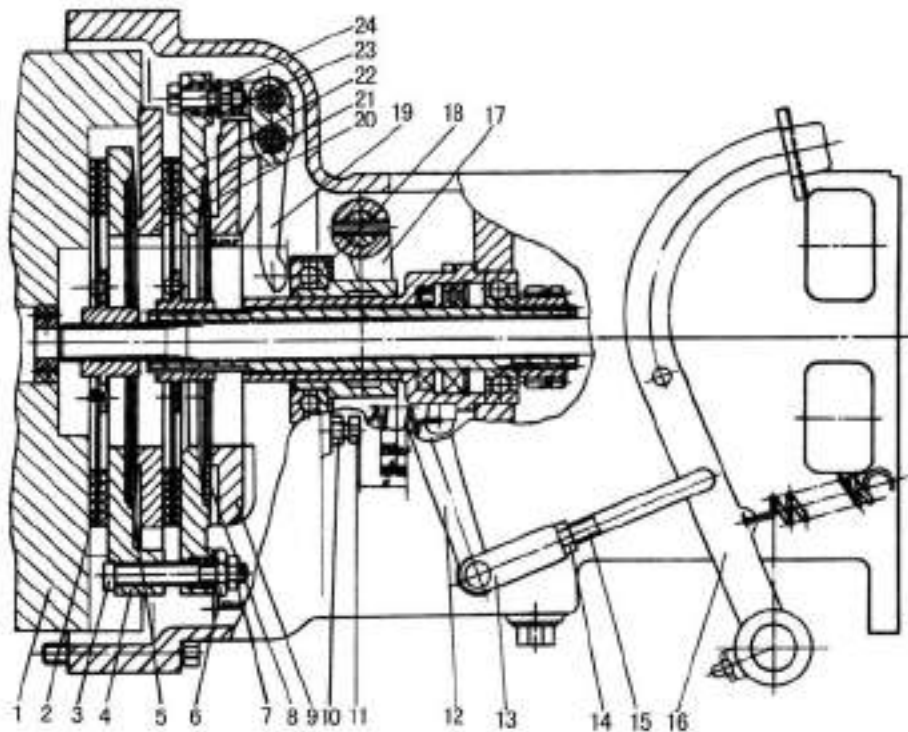

Fig 4-1 Dual stage clutch
Fig. 4-1 is connection-controlled dual stage clutch. It mainly consists of three parts: driving part, driven part and controlling part. Driving part rotates with the engine flywheel; only when the clutch engages can the driven part rotate with the engine.
When adjusting the free travel of the clutch pedal (Fig. 4-1), firstly adjust the length of clutch push rod (15) to ensure that the clearance between end faces of three release levers and release bearing is $2.5 \pm 0.5\text{mm}$ and the idle travel of release rock arm is 3.5-5mm; after adjustment tighten it with nut M10.